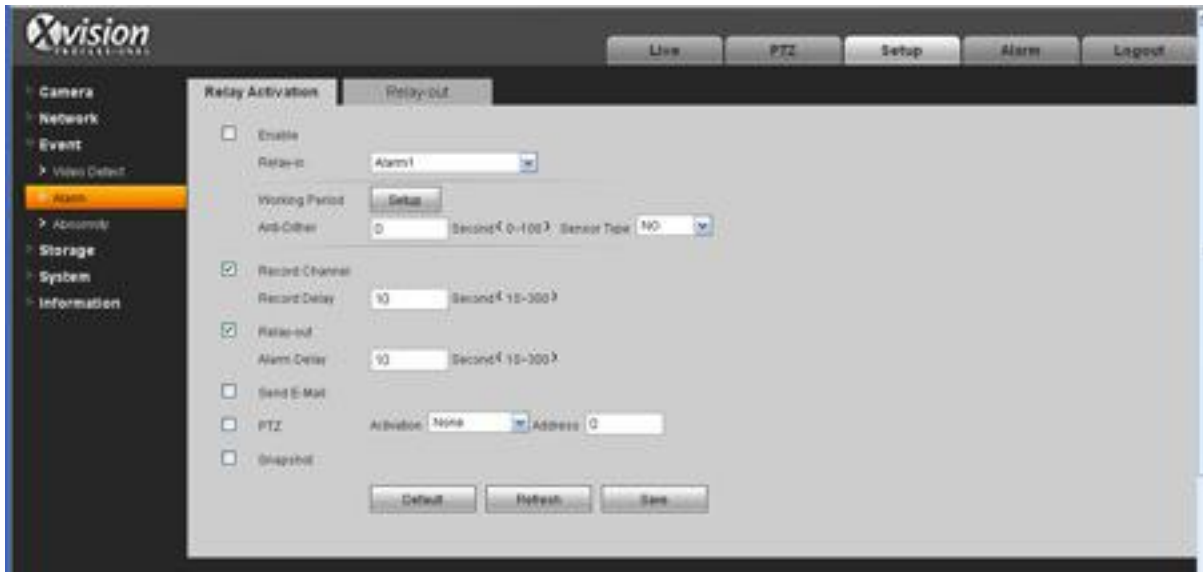

Figure 2-4
The alarm interface is shown as in Figure 2-4. Please follow the steps listed below for local alarm input and output connection.
- 3) Open the Web, go to the Figure 2-4. Please set the alarm input 01 port for the first channel of the I/O cable (No.3 pin). The alarm input 02 is for the 2nd channel of I/O cable (No.4 pin). Then you can select the corresponding type (NO/NC.)